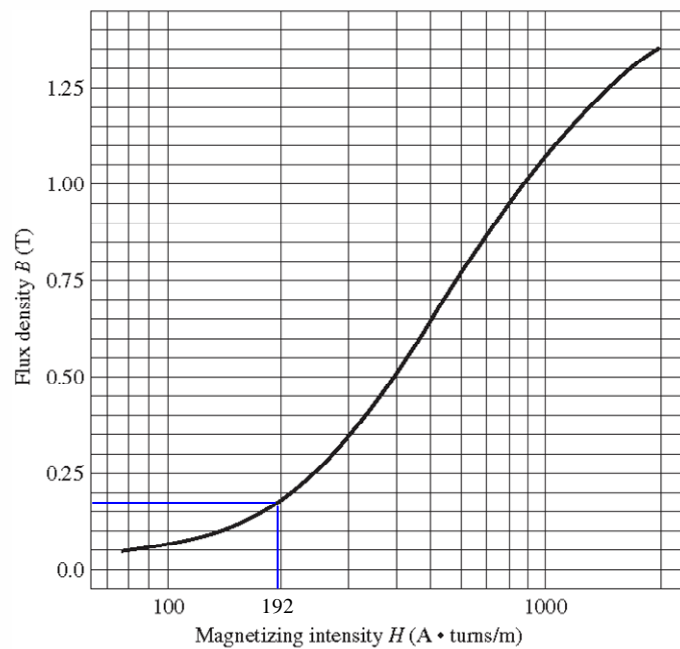

FIGURE P1-9
**1-12.** The core shown in Figure P1-4 is made of a steel whose magnetization curve is shown in Figure P1-9. Repeat Problem 1-7, but this time do *not* assume a constant value of  $\mu_r$ . How much flux is produced in the core by the currents specified? What is the relative permeability of this core under these conditions? Was the assumption in Problem 1-7 that the relative permeability was equal to 1200 a good assumption for these conditions? Is it a good assumption in general?